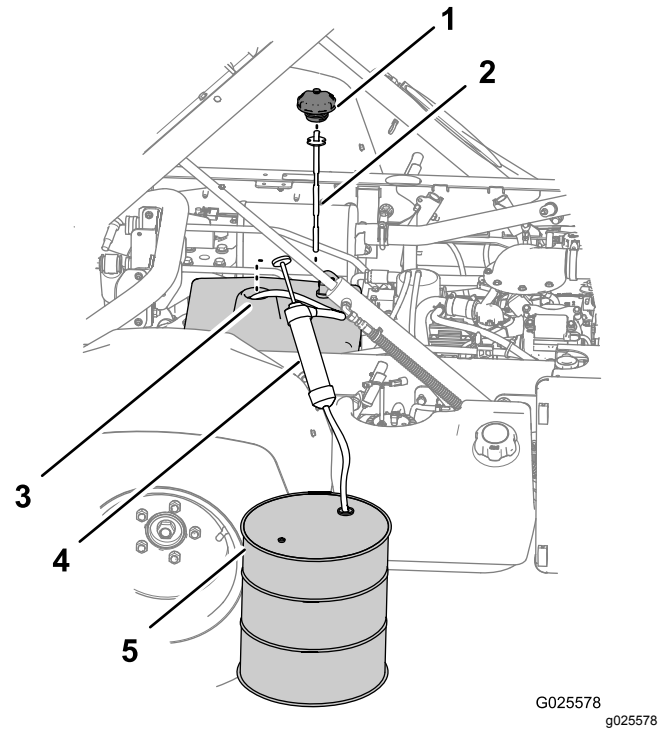

Figure 82
3. Remove the cap and dipstick from the filler neck of the hydraulic tank (Figure 82).
4. Route the intake hose of the siphoning equipment through the filler neck of the hydraulic tank and to the bottom of the tank (Figure 82).
5. Direct the discharge hose of the siphoning equipment into a collection container (Figure 82) with a 11.4 L (3 US gallon) capacity—Non-TC model or 18.9 L (5 US gallon) capacity—Non-TC model with the High Flow Hydraulic Kit (option) or TC model.
7. Remove the siphoning equipment from the hydraulic tank (Figure 82).
8. Add 7.5 L (2 US gallons)—Non-TC model or 15.1 L (4 US gallons)—Non-TC model with the High Flow Hydraulic Kit (option) or TC model of the specified hydraulic fluid into the hydraulic tank (Figure 82).
9. Install the dipstick and cap to the filler neck of the hydraulic tank (Figure 82).